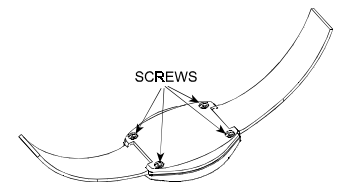

Figure 2. Opening the Case
B. Loosen and remove the 4 screws shown in Figure 2. Take care not to lose the screws.